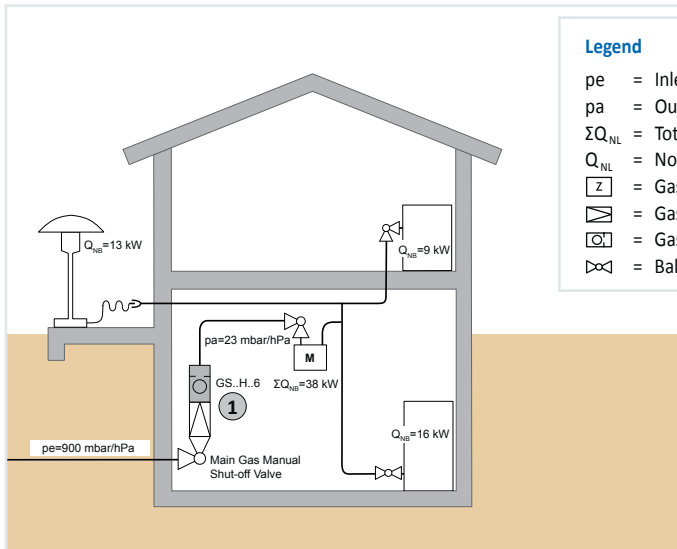

Figure 3: SENTRY GS in a single-family dwelling (supplied with natural gas)
In figure 3 a single EFV is required for an entire gas installation. It is recommended that the EFV be installed at the outlet of the gas pressure regulator (see Example 1 below).
- See ① in figure 3
- Result: ① in table 1 = GS..6 (GS..H..6...)